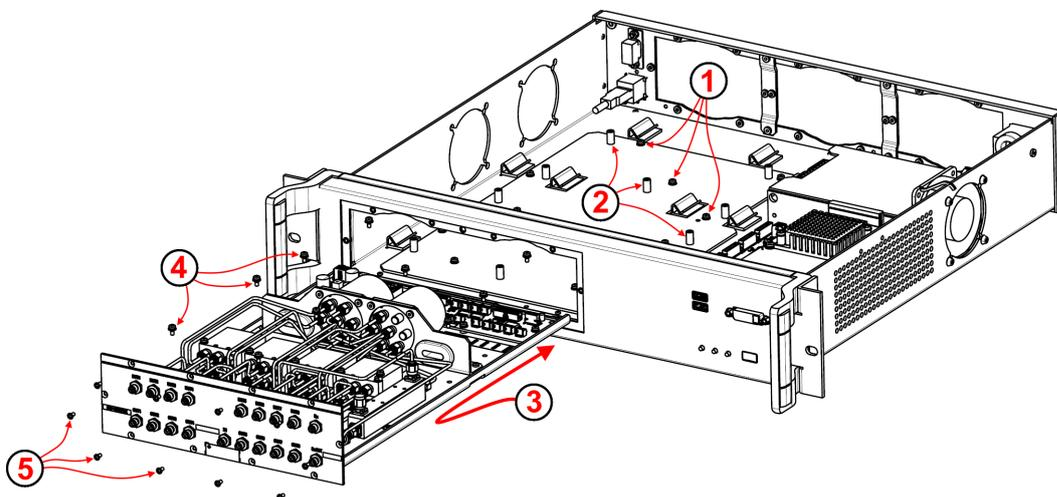

Figure 3-5: Inserting the module R&S OSP-B157WX
- 3 = Top view of the complete module with the same 11 screws highlighted as in the isolated presentation (2)
21. Insert the module into the switch unit from the front side (item (3) in Figure 3-5).
24. Screw the module's front plate to the switch unit's front panel (item (5) in Figure 3-5, 10 countersunk screws, type Torx M2.5x6, included in the delivery).